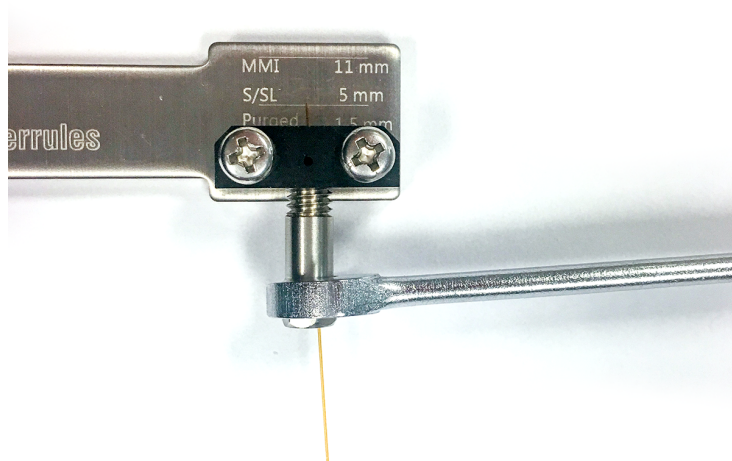

Figure 18. Tighten the column nut
- c. Check if the ferrule is gripping the column. If yes, stop. If not, continue to tighten the internal nut in small 5- to 15-degree increments. Check after each increment to see if the ferrule is gripping the column. Stop as soon as gripping occurs. See Figure 18.